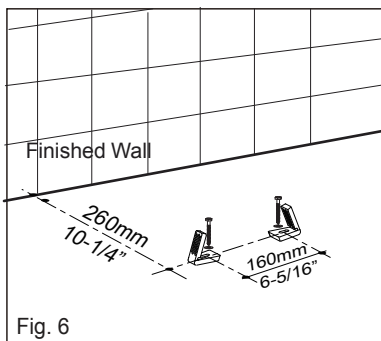

Fig. 6
6. Drill two 10mm diameter holes into the floor and push the supplied plastic anchor into the holes as detailed in Fig. 6.
7. Secure the bowl fixing bracket onto the floor with the supplied hex head screw and washer, as shown in Fig. 6.